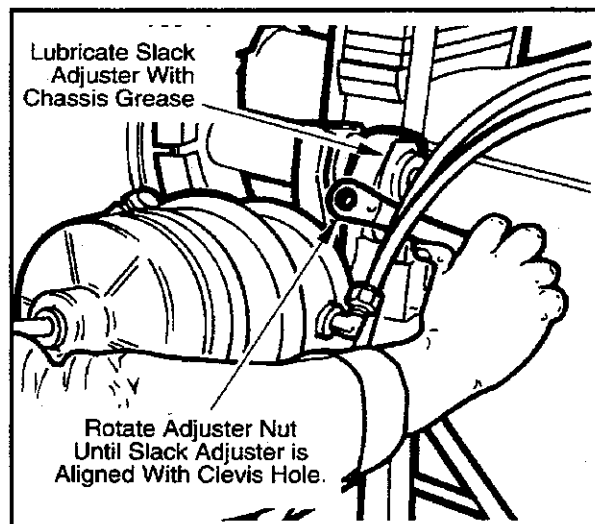

Figure 24—Rotate Adjuster Nut
19. Pressure lubricate air chamber bracket until grease flows out of slack adjuster end of tube. (See Figure 24—Rotate Adjuster Nut.)
23. Depress locking sleeve as required until correct hole in slack adjuster is aligned with hole in air chamber push-rod clevis. (See Figure 24—Rotate Adjuster Nut.)